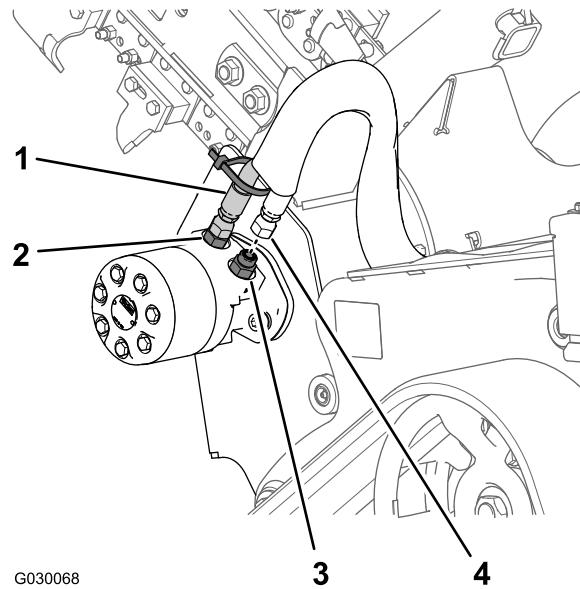

Figure 5
- Assemble the hydraulic hose with the cable tie that you installed in step 3 of 2 Removing the Hydraulic Motor for the Trencher Drive (page 2) onto the straight hydraulic fitting in port A (the forward port) of the hydraulic motor (Figure 5).
- Assemble the other hydraulic hose onto the straight hydraulic fitting in the port B (the rear port) of the hydraulic motor (Figure 5).